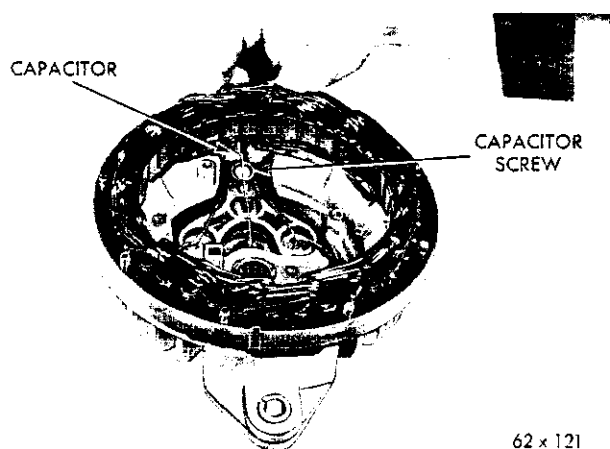

Fig. 77—Installing the Inside Capacitor
(9) The alternators have the capacitor mounted internally. Make sure the heat sink insulator is in place.
(10) Install the output terminal screw with the capacitor attached through the heat sink and end shield (Fig. 77).
(11) Install the insulating washers, lockwashers and lock nuts.
(12) Make sure the heat sink and insulator are